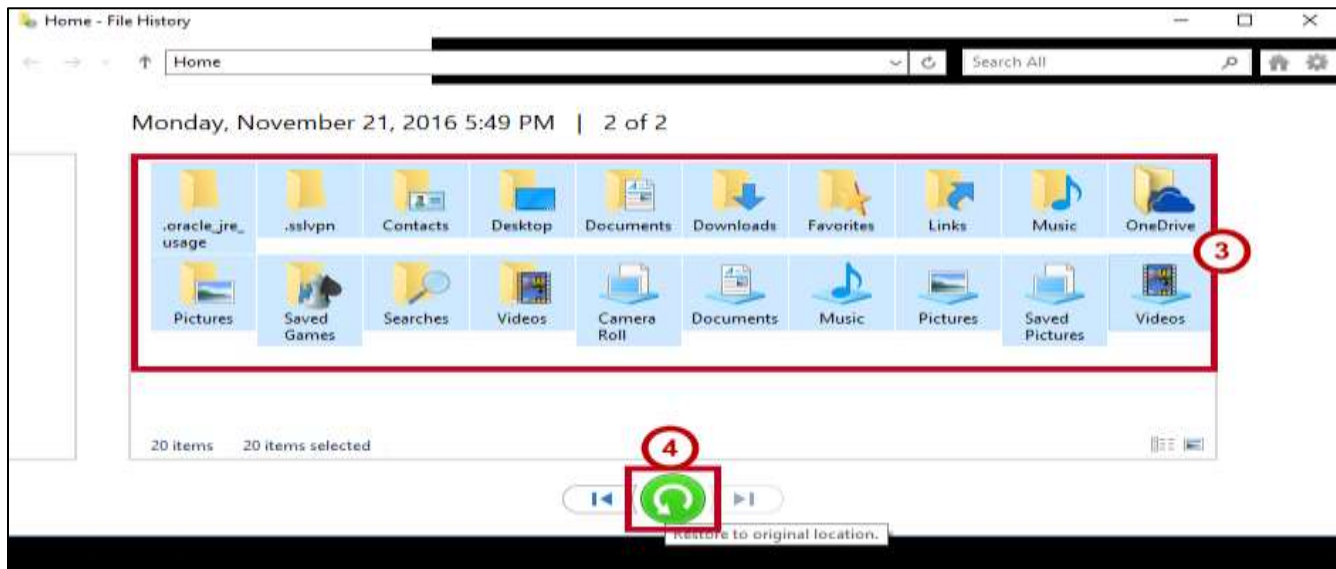

Figure 10 - Select Files and Restore
3. Select the **files** you want to restore (See Figure 10).
4. Click the **Restore** button (See Figure 10).